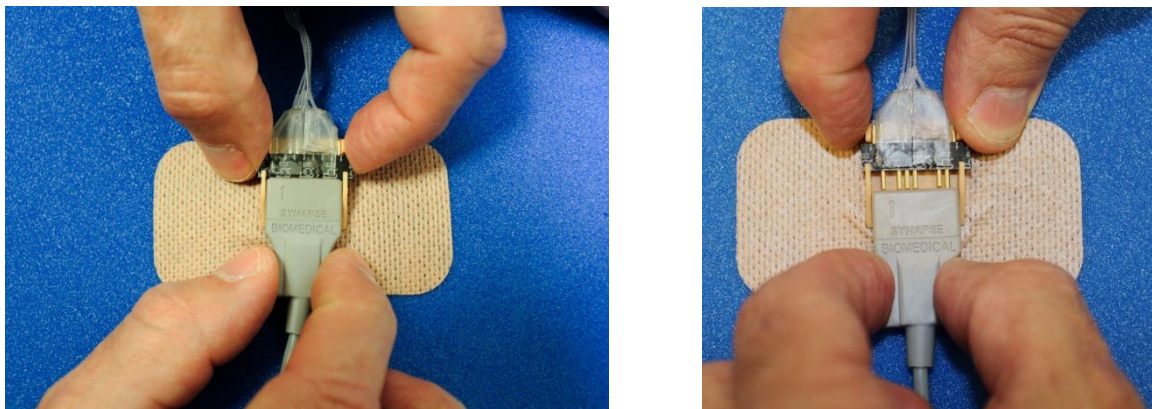

Figure 23.
- Before bathing, disconnect the patient cable from the electrode connector (Figure 23).